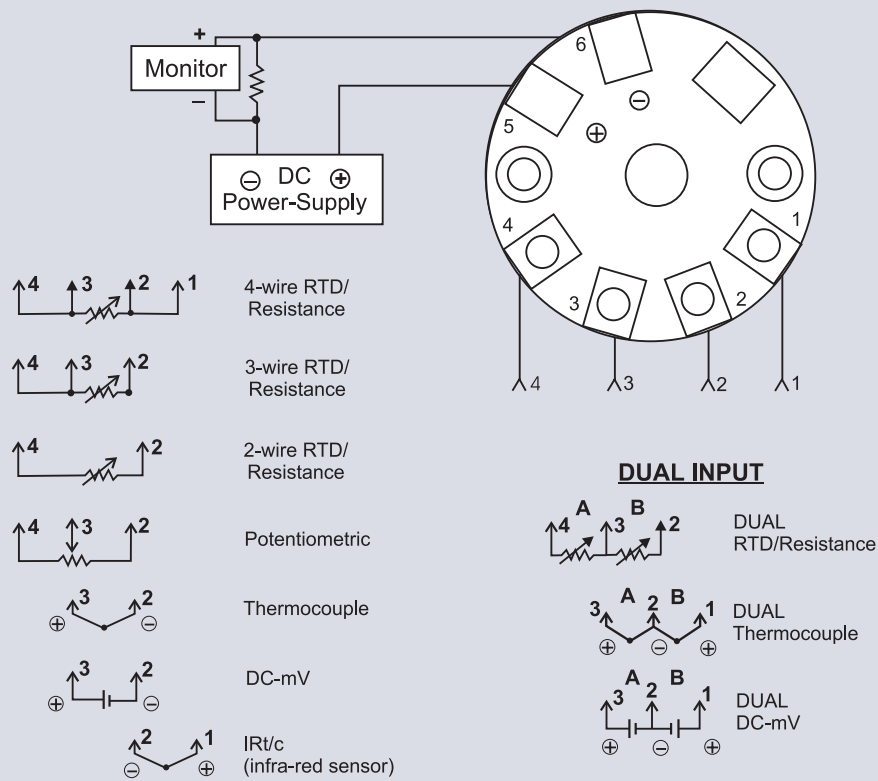

Figure 1: Terminal Assignment
2. Connect the input signal wires according to the interconnection diagram shown in Figure 1.
3. Connect the output signal wires to the controller or digital indicator with a power supply to create an output loop as shown in Figure 1. Observe proper polarity.